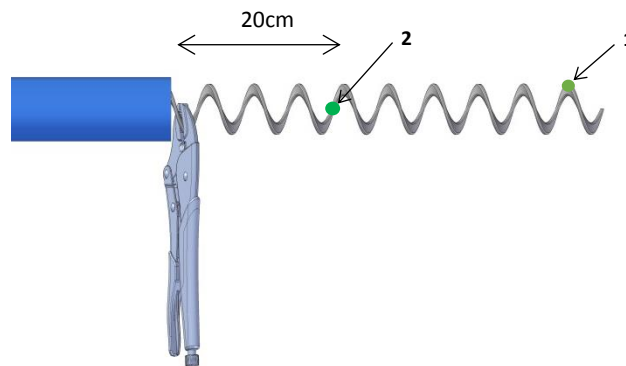

Figure 2
- Allow the auger to pull back until the locking pliers press against the pipe, as shown in Figure 2.